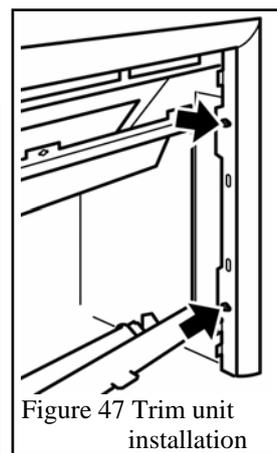

Figure 47 Trim unit installation
- Attach the complete trim unit to the firebox with four screws as shown in figure 47.